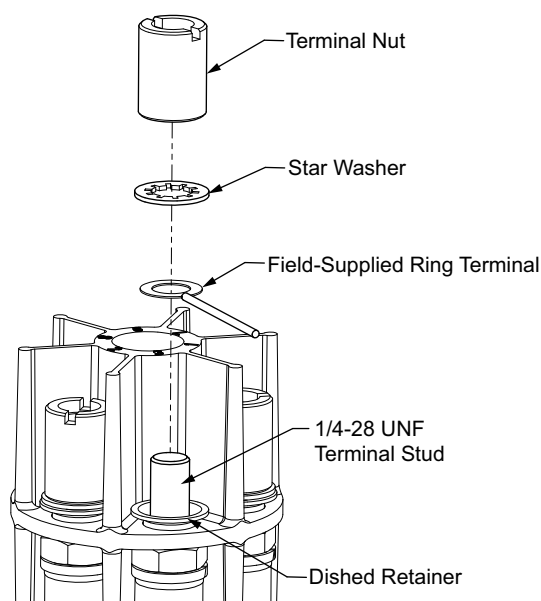

Fig. 9 — Terminal Plate Components
2. With screwdriver, remove terminal nut and star washer only on terminals needed to make connections applicable to installed overload system. Leave dished retainer in place. See Fig. 9 for component details and locations.
3. Apply all applicable power and control circuit leads to the terminal studs per associated overload wiring diagram. Reassemble star washers and extended slotted terminal nuts. See Fig. 9 for component details and locations.